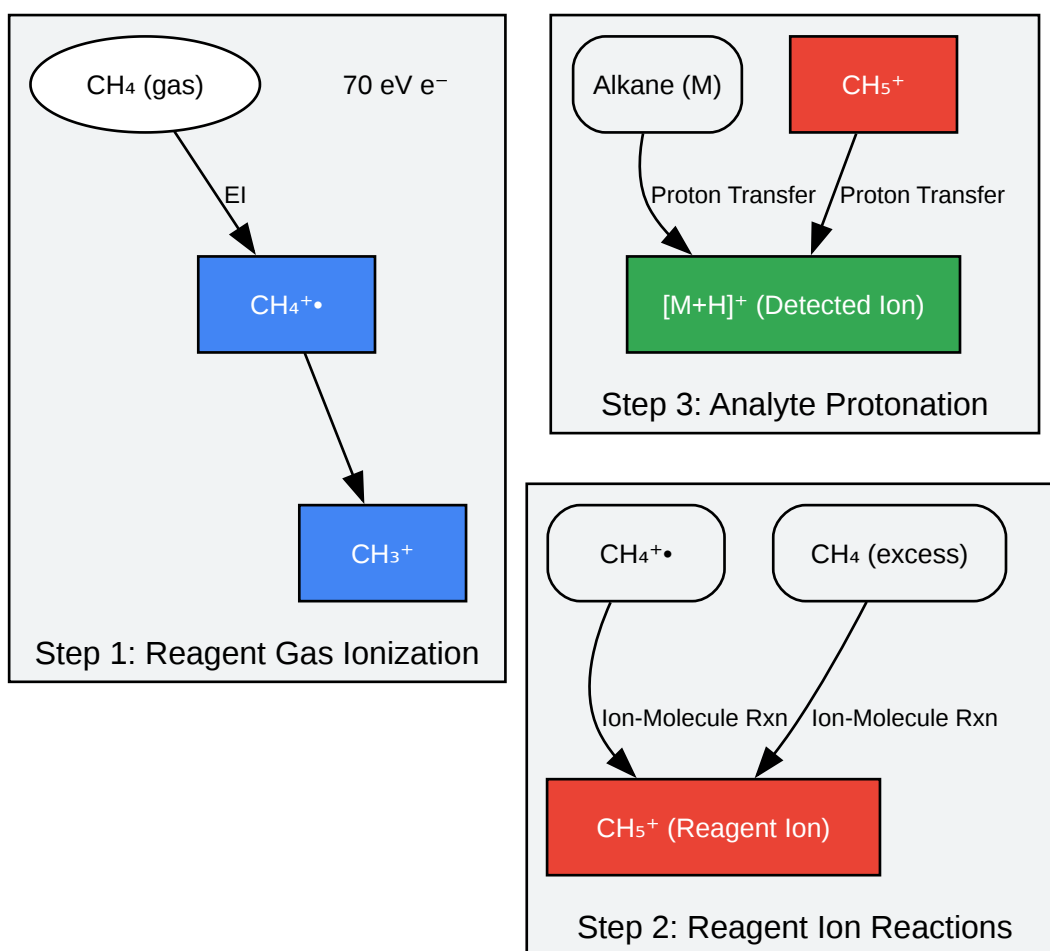

Figure 2. Methane Chemical Ionization (CI) process.
Caption: Figure 2. Methane Chemical Ionization (CI) process.